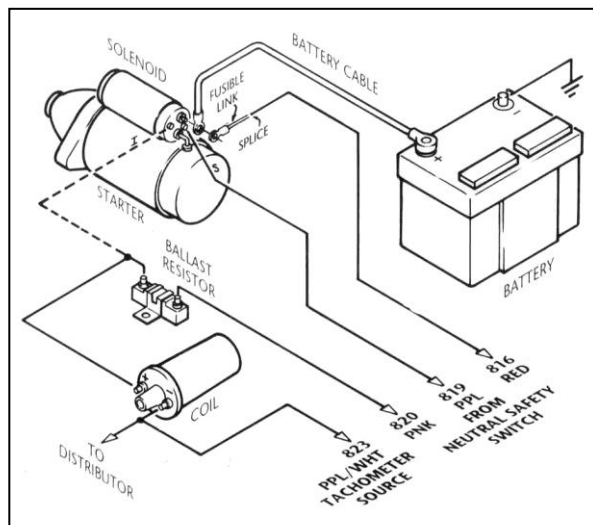

Figure 6.4 GM ignition system
6.2.4 GM Ignition (Start/Run) System. See Figure 6.4.
- F. A 14-gauge wire connected from the starter solenoid ignition (I) terminal to the ignition coil side of the ballast resistor is optional. This wire (the dashed line in **Figure 6.4**) serves as a ballast resistor bypass during engine starting. However, if the starter solenoid shorts out, which is not unusual, the engine will stop running and will not restart as long as this wire is connected. You may therefore choose to omit it. If you are not using a ballast resistor, leave the starter solenoid ignition (I) terminal unconnected and do not install the bypass wire.